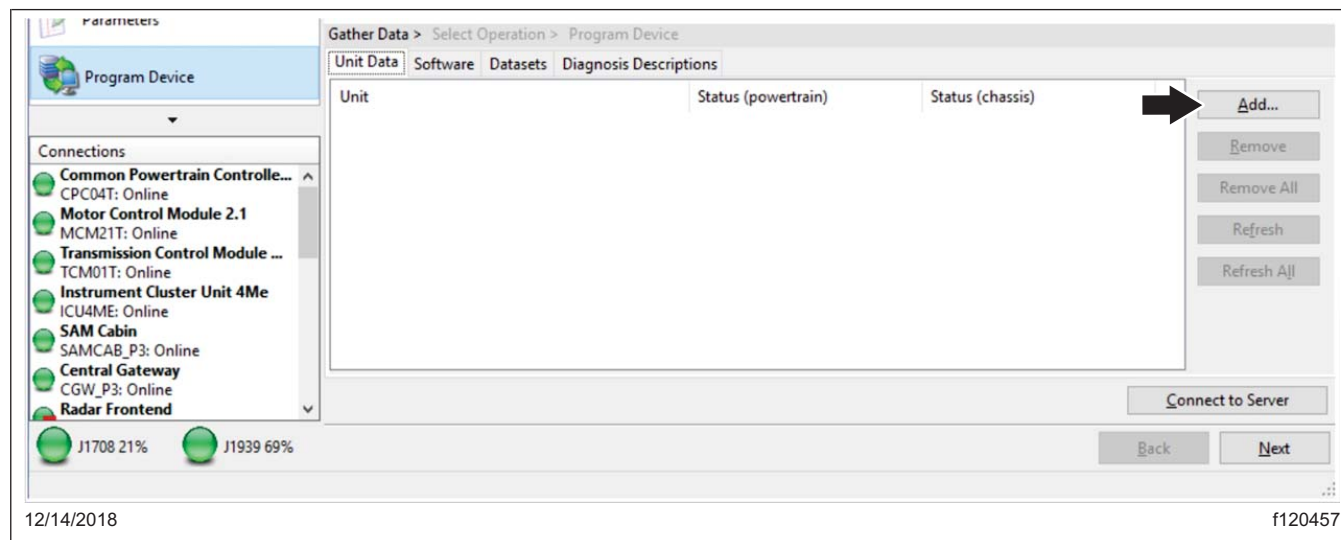

Fig. 5, Adding the VIN to Download Updated Server Data
- Click "Add" to add a download request for the vehicle. See Fig. 5.